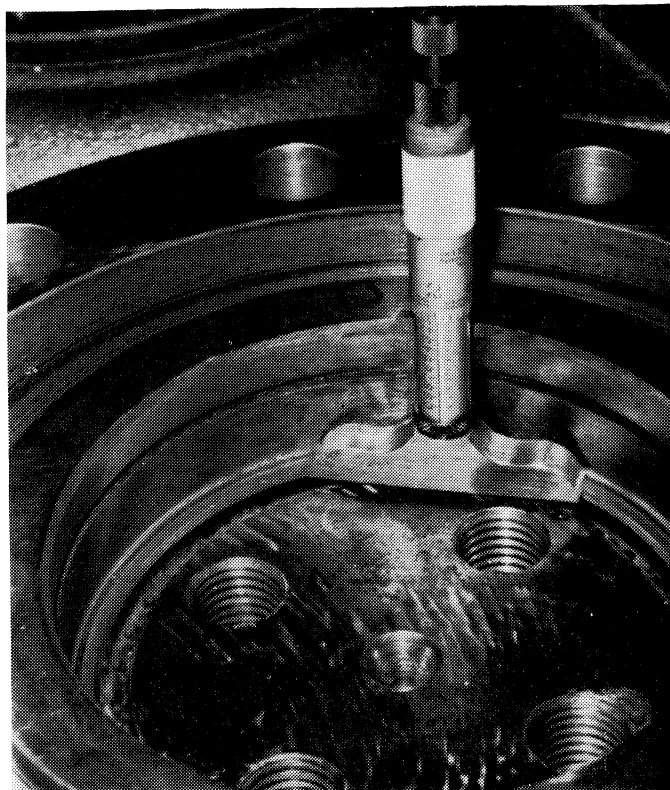

Figure 9-17. Measuring Gap Between Shoulder in Bore of Output Flange and End of Output Shaft.
17. Determine the amount of shims (16) needed for retainer washer (17) by measuring the gap between the shoulder in the bore of the output flange and the end of the output shaft. See Figure 9-17.